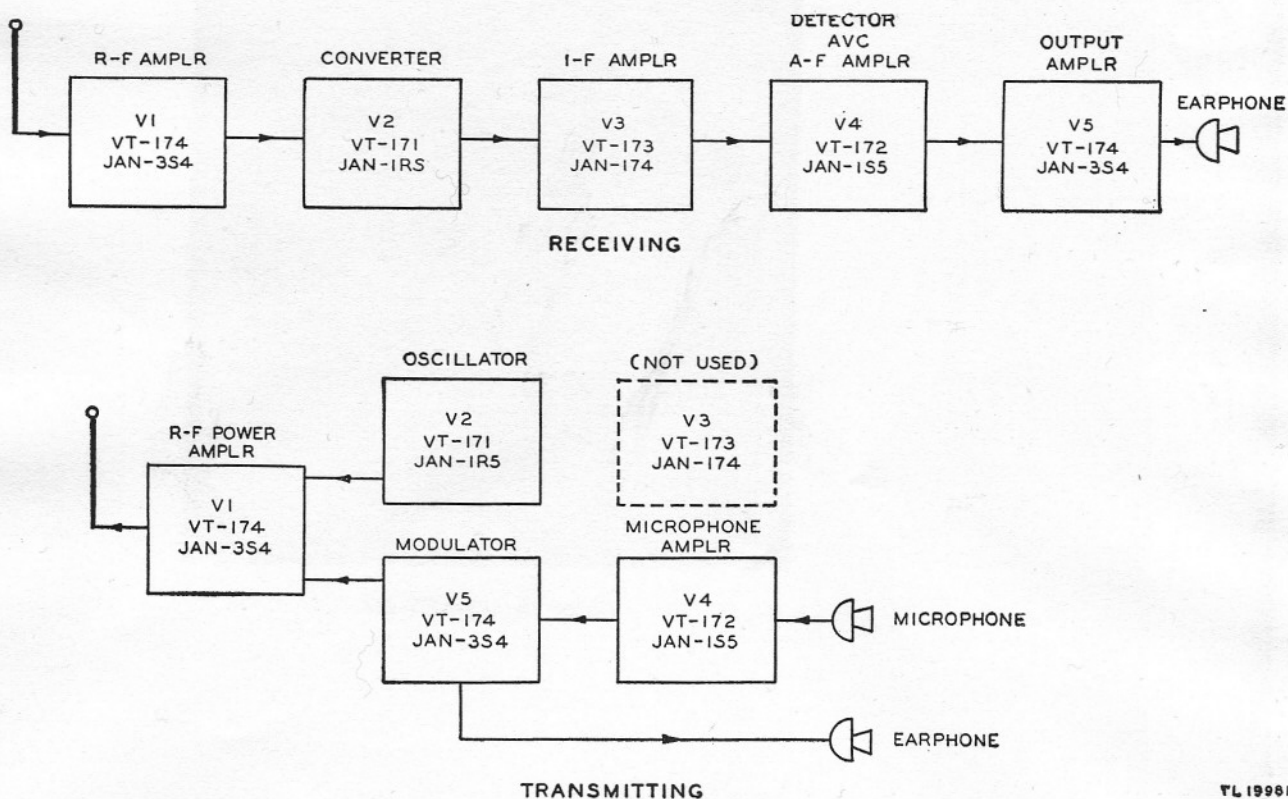

Figure 49. Radio Set SCR-536-(*), block diagram.
b. RECEIVER. Figure 49 shows the signal paths through the receiver and transmitter. The same antenna is used for reception and transmission. The received signal voltage is amplified by tube VI and applied to the signal grid of tube V2. In converter tube V2, the incoming signal is mixed with the oscillator signal generated in the same tube, producing a beat frequency of 455 kc. The oscillator uses a
(2) Block diagram of Radio Set SCR-536-(*). (See fig. 49.)